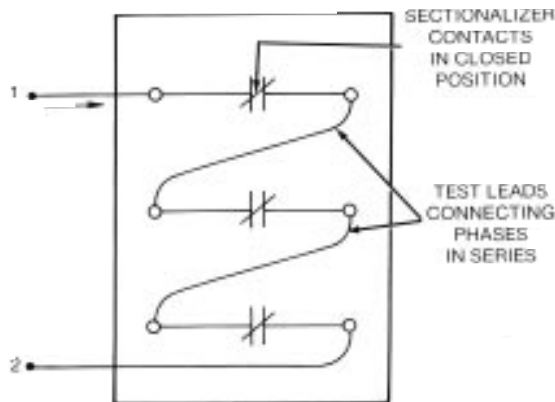

Figure 21.
1. Connect all three phases of the sectionalizer in series, as shown in Figure 21, and close the sectionalizer.